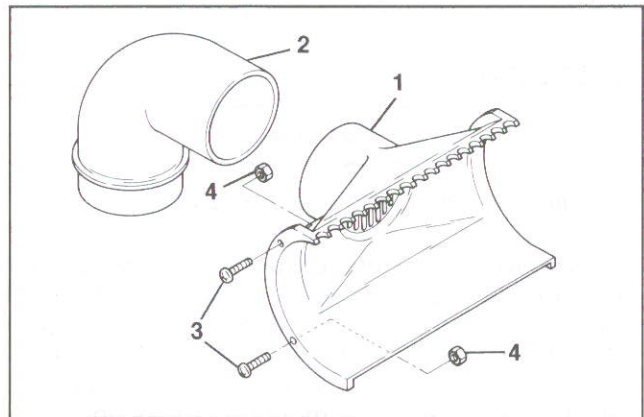

Figure 4.
4. Install the new dust chute. (See Figure 4.) Use the 1/4" Allen wrench to attach the dust chute (1) to the right frame side with the screws (3) and nuts (4).
5. Insert the elbow (2) into the dust chute outlet with the elbow outlet facing downward. Connect the Dust Collector hose to the elbow.